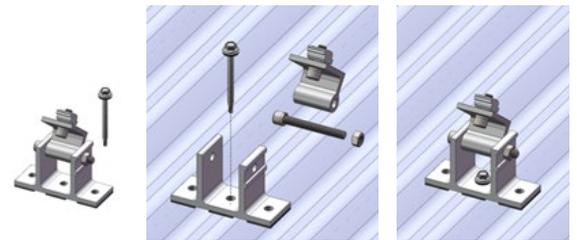

Figure 5.7b
2. Single screw shall be installed through central hole only of front leg (as shown in Figure 5.7b).